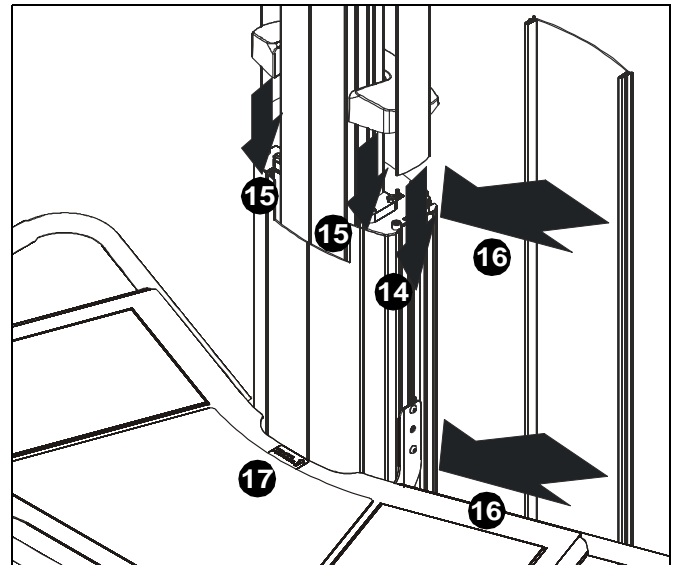

Figure 6
14. Reinstall side covers into side slots on cart/stand column. (See Figure 6)
15. Reinstall column inner cover to cart/stand column. (See Figure 6)
16. Reinstall back cover to cart/stand column. (See Figure 6)
17. Install components to shelf and shelf drawers. (See Figure 6)